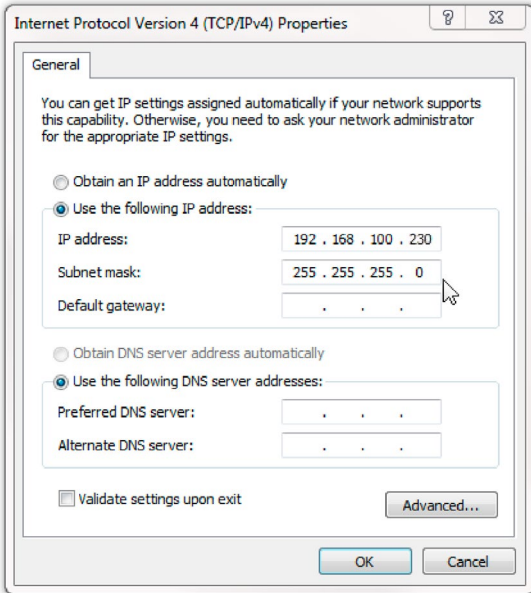

Fig. 50: Static IP address
- Click the radio button “Use the following IP address” and set an own static IP address (Fig. 50).
**Example (Fig. 50):**